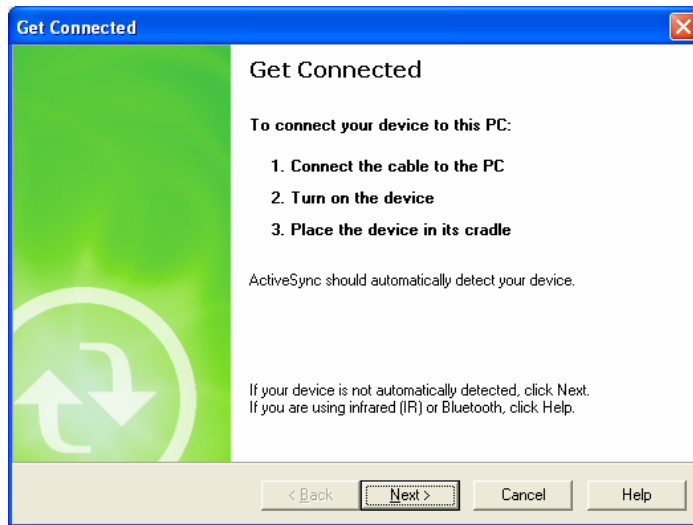

Figure 5.3
3. Pause the installation when the menu in Figure 5.3 is displayed; you have to install the driver at this point.